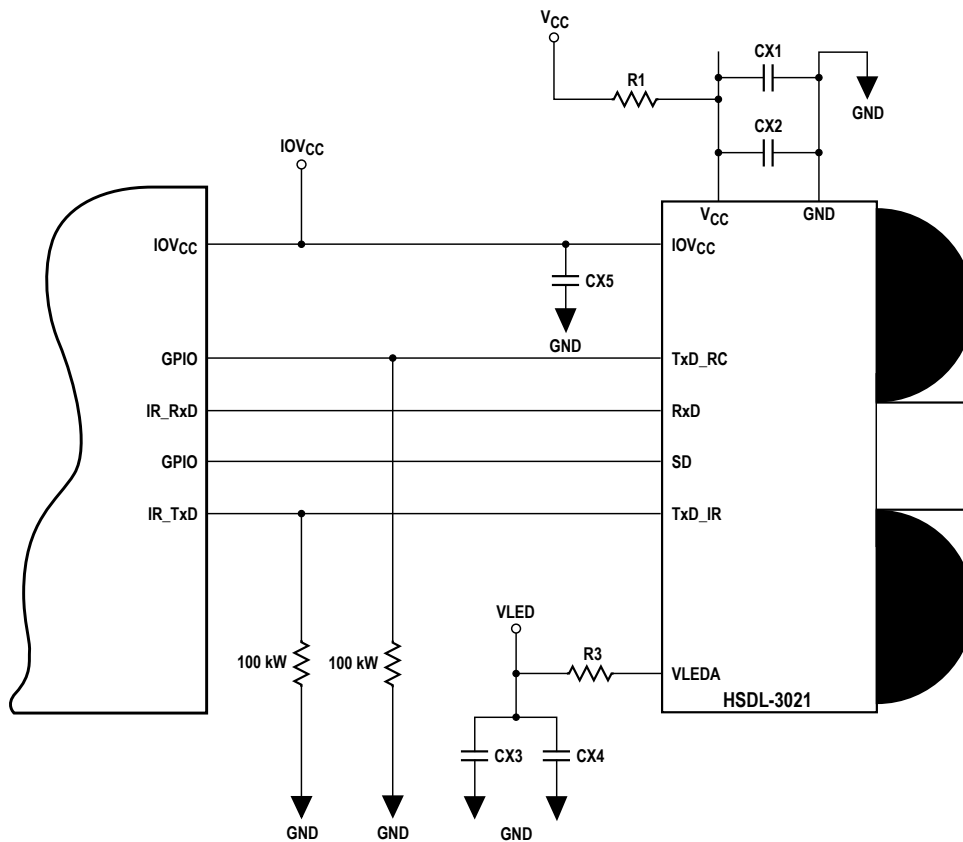

Figure 3: HSDL-3021 configuration with general mobile architecture processor.
* Detailed configuration of HSDL-3021 with the controller chip is shown in Figure 3.
IrDA data transmission and Remote control transmission is possible simultaneously by the hardware, the software is required to resolve this issue to prevent the mixing and corruption of data while being transmitted over the free air. The above Figure 3 illustrates a reference interfacing to implement both IR and RC functionality with HSDL-3021.